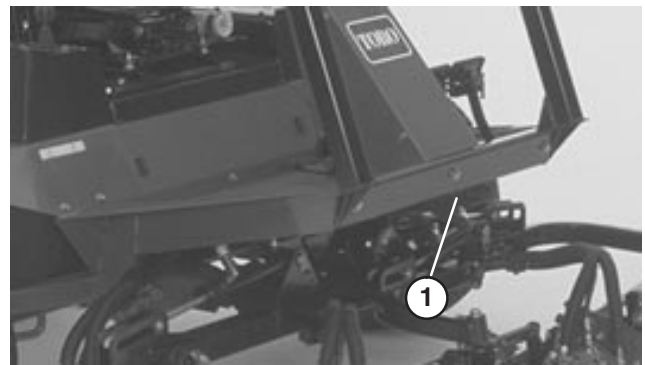

Figure 36
2. Attach a suitable chain, strap or cable to the center of the front frame member (Fig. 36).